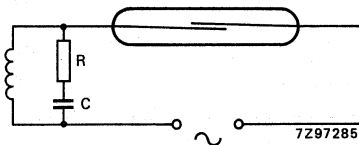

Fig. 14 AC voltage contact protection.
b) AC voltage: an RC-network parallel to the load or the reed switch, see Fig. 14.